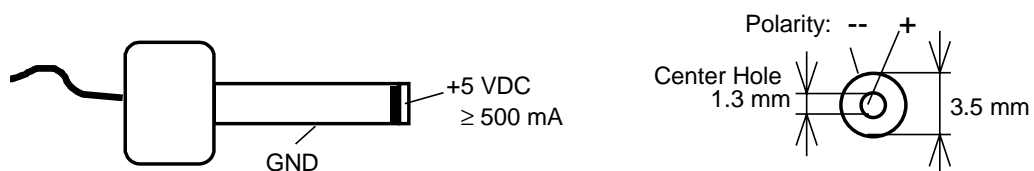

Figure 4: Power Connector
- Using the included 5V DC power adapter, connect the power socket X1 on the phyCORE module to a power supply (*refer to Figure 4 for the correct polarity*).